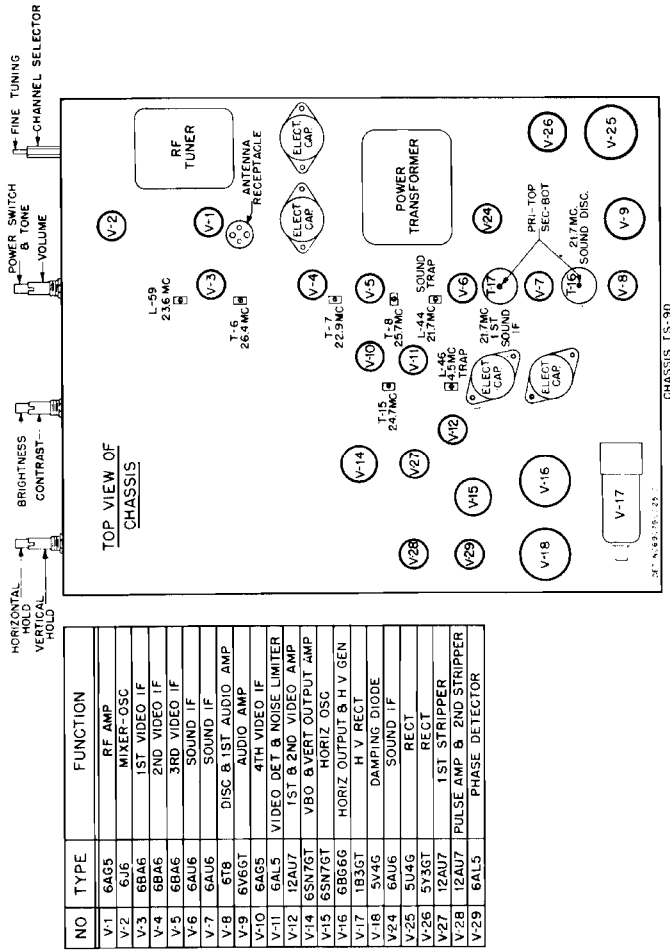

FIGURE 5. CHASSIS TS-9, A, B & C TUBE & IF ADJUSTMENT LOCATIONS
7. Refer to Figures 5 & 6 for location of alignment adjustments and to the following chart for procedure.
2. Refer to Figures 5 & 6 for location of alignment adjustments and to the following chart for procedure.